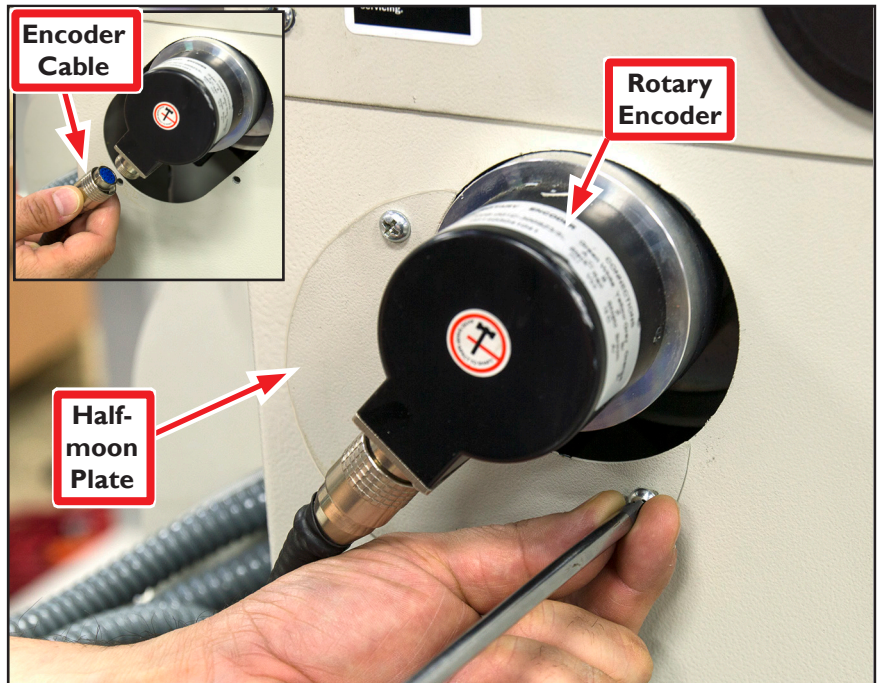

Figure 11
1. Remove the lathe's Half-moon Plate located next to the Rotary Encoder see **Figure 11**); set aside.
2. Unscrew and disconnect the Encoder Cable (see **Figure 11 inset**).
18. Re-attach the Half-moon Plate next to the Rotary Encoder (see **Figure 11**).
19. Re-connect the Encoder Cable (see **Figure 11** and **inset**).